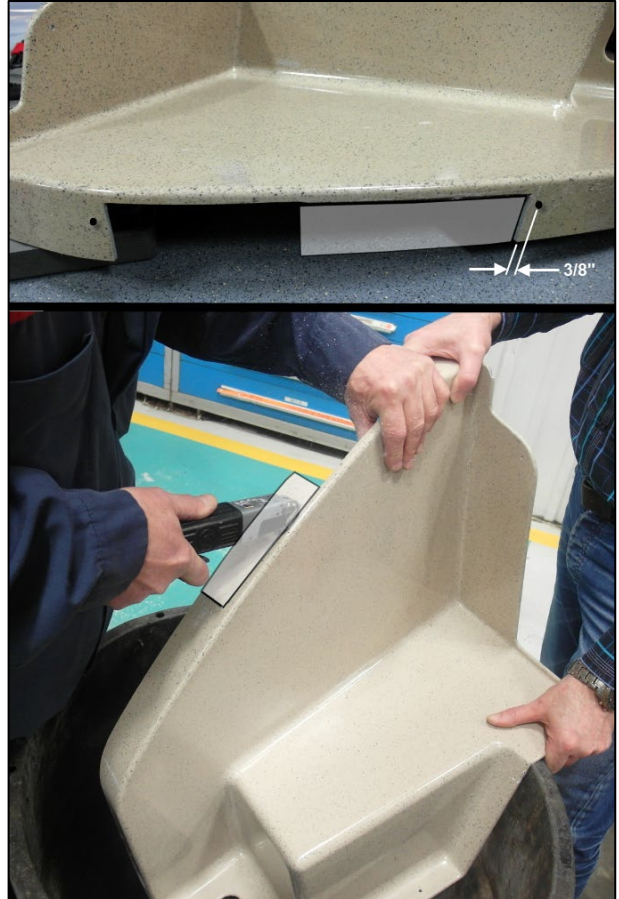

FIGURE 6
- Enlarge the existing trimming as shown in fig. 6